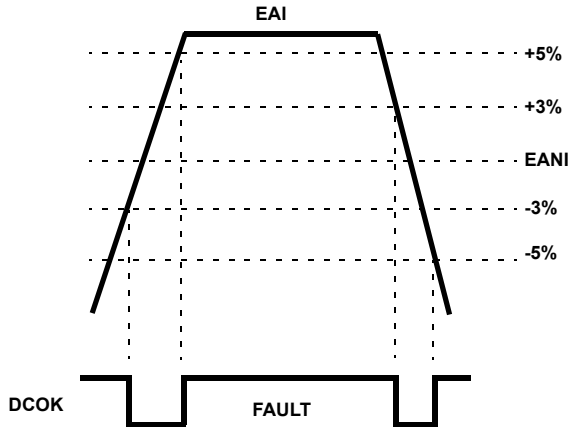

FIGURE 14. UNDERVOLTAGE-OVERVOLTAGE WINDOW
- DCOK pin is an open-drain output capable of sinking 5mA. It is low when the output voltage is within the UVVO window. The static regulation limit is $\pm 3\%$, while the $\pm 5\%$ is the dynamic regulation limit. It indicates power-good when the EAI is within -3% to $+5\%$ on the rising edge and within $+3\%$ to -5% on the falling edge, as shown in Figure 14.